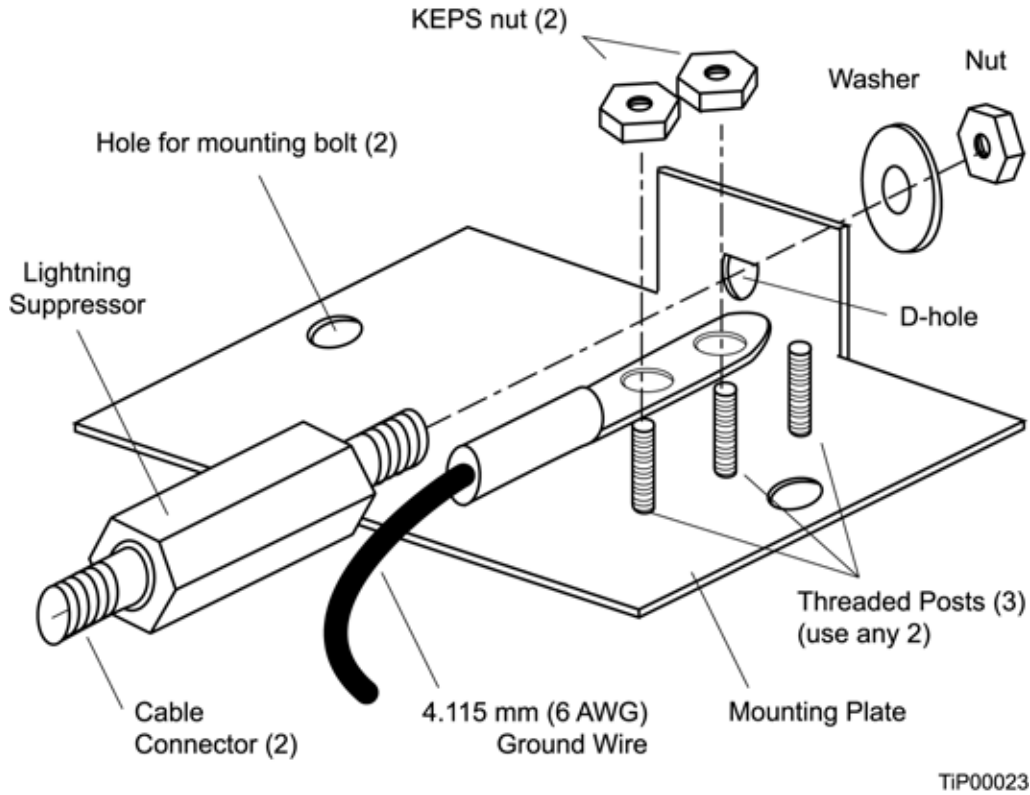

Figure 3-24. Assembling the Lightning Suppressor
9. Assemble the lightning suppressor as shown in Figure 3-24.